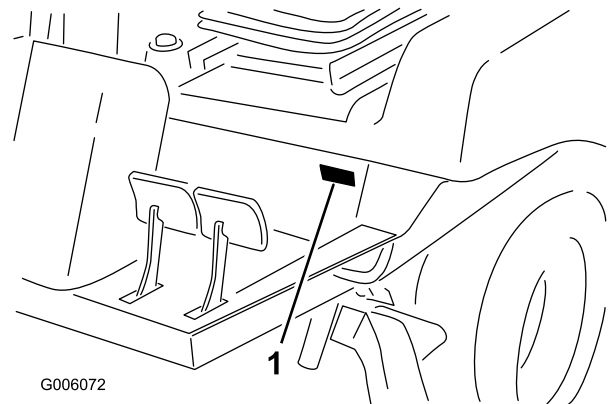

Figure 11
32. Install the lube decal and 4 wheel drive decal next to the existing model and serial plate on the traction unit (Figure 11).